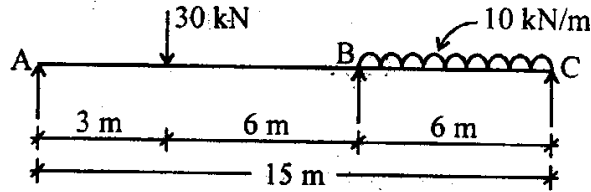

Fig. 1
- (a) A continuous beam ABC carries a point load and a uniformly distributed load on shown in Fig. 1. Using three moment equation, draw the bending moment and shear force diagrams.